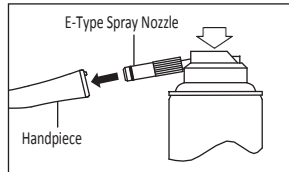

Fig.15
- 2) Insert the Spray Nozzle into the rear of the handpiece. Hold the handpiece and spray 2-3 times for approximately 2-3 seconds each time. Apply lubricant until it expels from the handpiece head for at least 2 seconds (Fig. 15).
- 3) Lubricate handpiece by using BeyesLube® SPRAY (Fig. 15) or Beyes automatic handpiece cleaning and lubrication system.